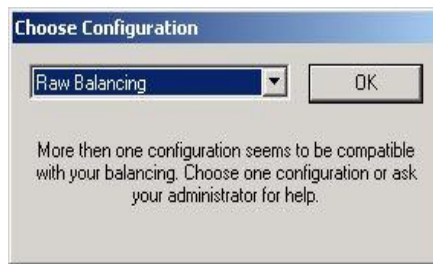

Figure 24: Dialog Select Configuration
- 3) If there are several configurations for one of the two plantypes (Linesequences and Line), the dialog **Choose Configuration** appears, *Please refer to the Figure 24*. In the dialog select the corresponding configuration for the raw balancing. This dialog also appears if new variants or level 2 and level 3 workload balancings are created, and several configurations exist for the start object (area and group). This dialog does not appear if the attribute **Customization Name** has been configured and released for the properties dialog of the plantype and the name of the balancing configuration has been entered in the properties dialog of the start object (Linesequences or Line) with which the raw balancing is to be opened from the PPR-Navigator.